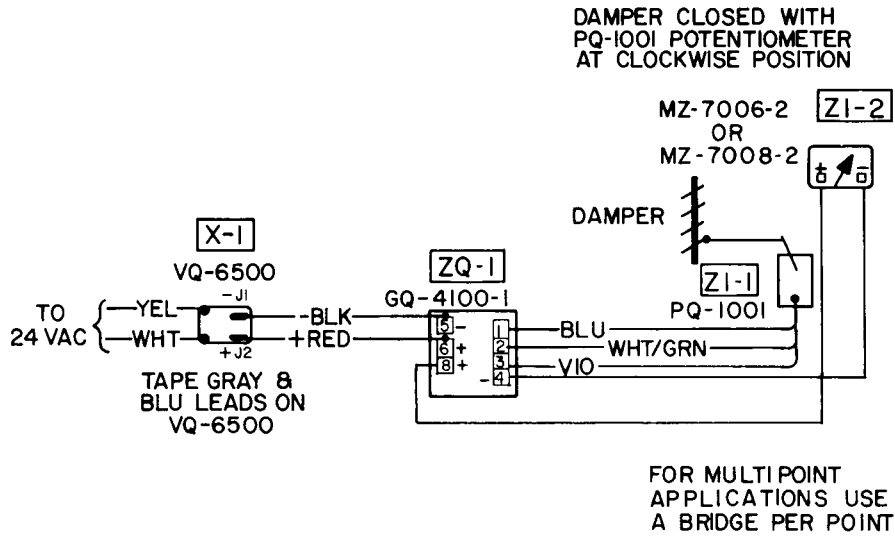

Figure 2: PQ-1001 Damper Position Indicator in a Typical Application with the GQ-4100/MZ-7000 Indication System
- For simple, low-cost analog display, use the PQ-1001 with a GQ-4100-1 bridge and MZ-7000 series meter as shown in Figure 2.